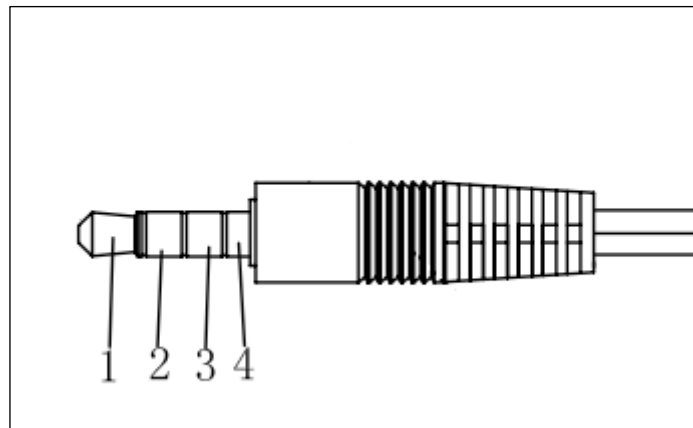

Figure 5: The TRRS connector for Banana Pro. Pin 1 is audio left, pin 2 is audio right, pin 3 is video out and pin 4 is ground.
- **AV output:** This connector combines analog videos and analog audio in a so-called TRRS jack (Figure 5):